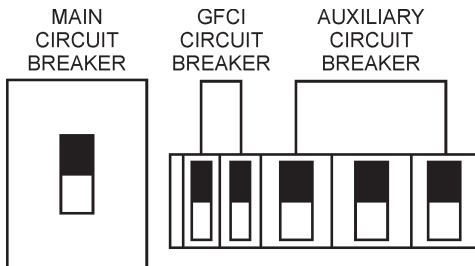

Figure 52. Main, Aux. and GFCI Circuit Breakers (ON)
14. Place the **main, GFCI, and aux.** circuit breakers in the **ON** position (Figure 52).